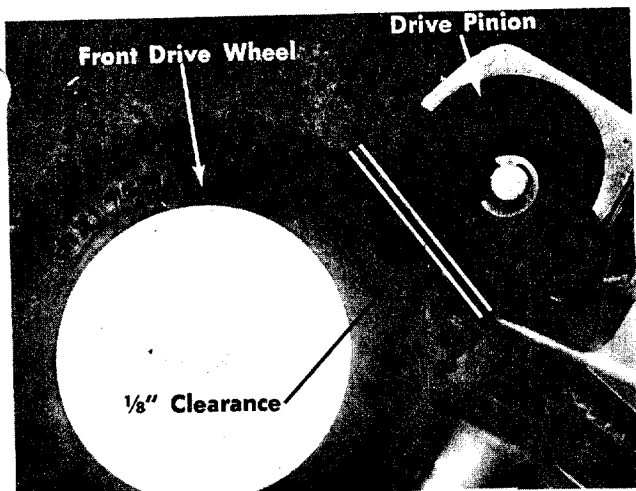

FIGURE 6.
5. The drive pinion should be about 1/8" from the drive wheels. See figure 6.